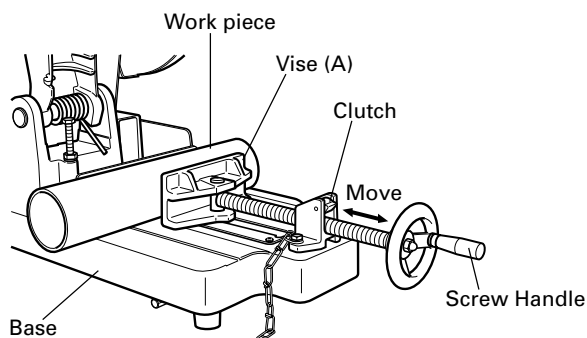

Fig. 7
2. Procedure for fixing the cutting workpiece (Fig. 7 and 8).
Place the workpiece material between Vise (A) and Vise (B), raise the clutch and push the Screw Handle to bring Vise (A) lightly into contact with the workpiece material, as shown in Fig. 7. Then, turn the clutch down, and securely fix the workpiece material in position by turning the Screw Handle. When the cutting job is completed, turn the Screw Handle 2 or 3 times to loosen the vise, and remove the workpiece material, as shown in Fig. 8.